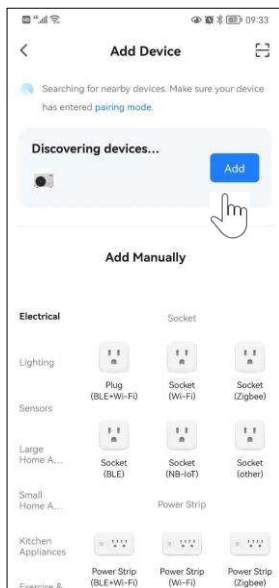

Fig.13 Searching for devices
4. After that, the system automatically searches for nearby devices. Click the <Add> button to add the device (Fig.13);